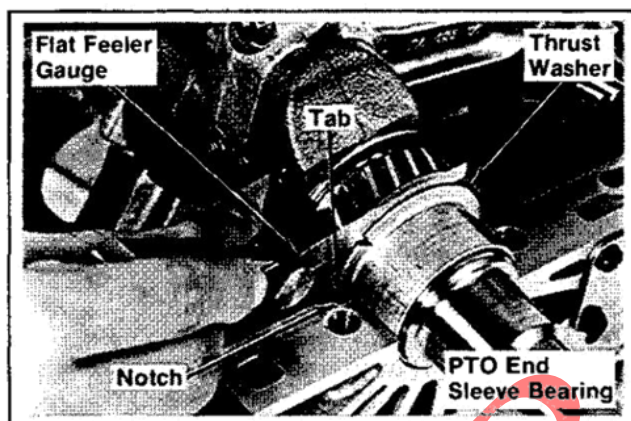
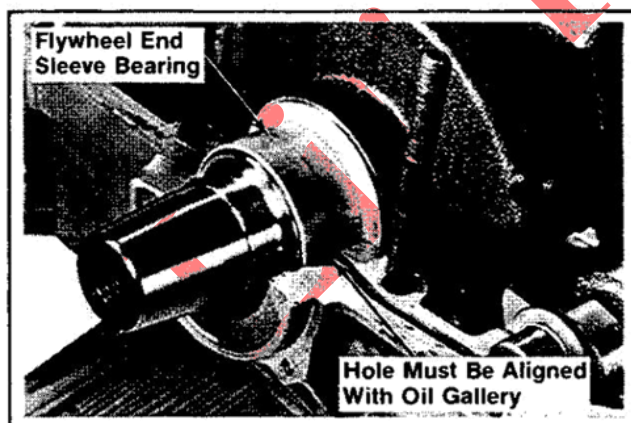

Figure 11-11. Position Of PTO End Bearing/Measuring Crankshaft End Play.
Figure 11-12. Position Of Flywheel End Bearing.
3. Install the crankshaft with connecting rods and bearings into crankcase. Make sure the locating tab of PTO end sleeve bearing is positioned in notch in crankcase. Refer to Figure 11-11. The oil hole in flywheel end sleeve bearing must be aligned with the oil gallery in crankcase. Refer to Figure 11-12.
4. Measure the crankshaft end play with a flat feeler gauge. The recommended crankshaft end play is .002/.014". Refer to Figure 11-11.